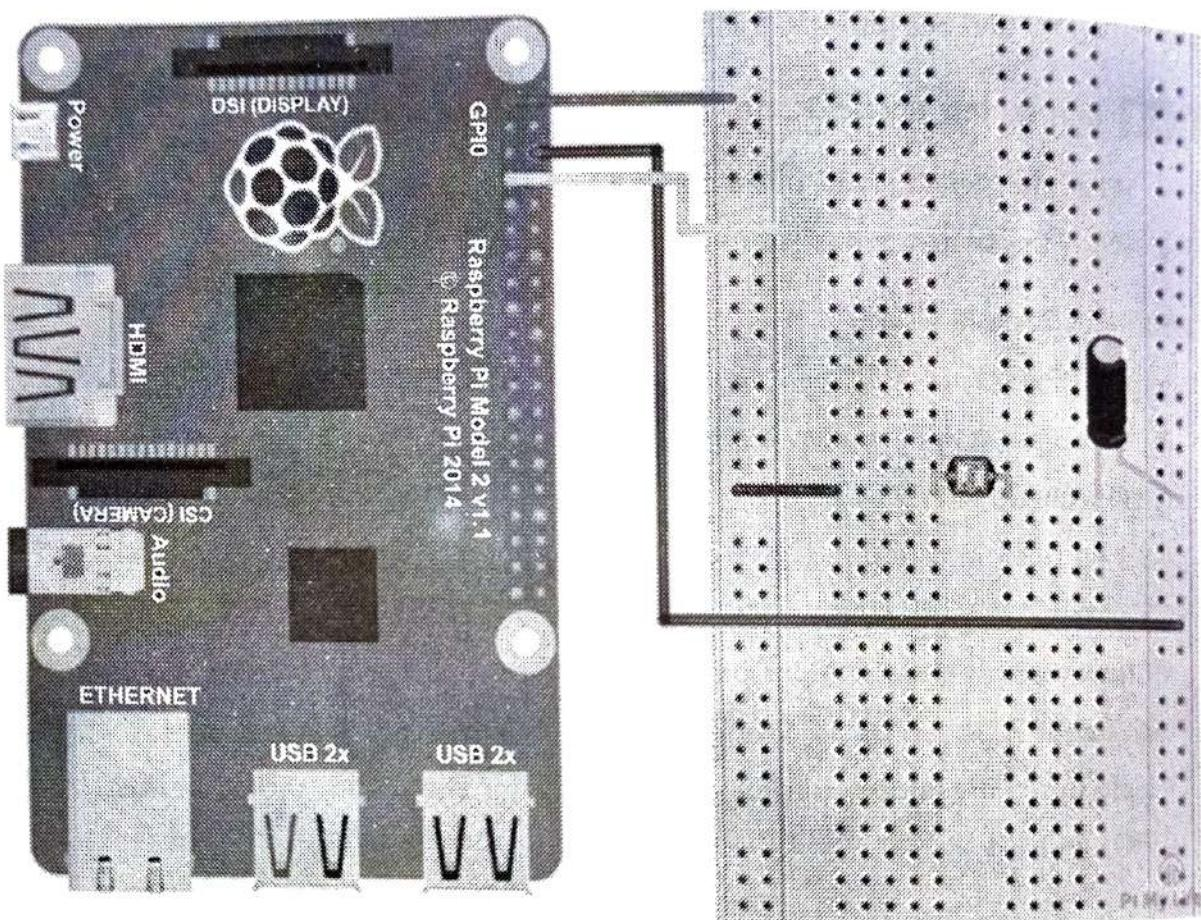

Fig. 6.4.5 : Diagram of connecting an LDR to Raspberry Pi
- Fig 6.4.5 shows diagram of connecting an LDR to Raspberry Pi.